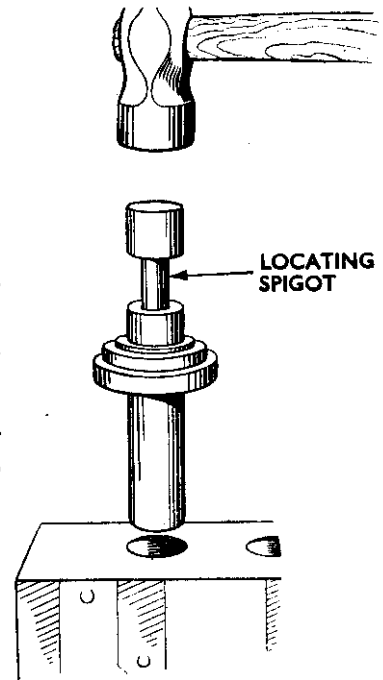

Fig. 6
- iv. With tool (spigoted drift) and hammer, as shown in Fig. 6, drive the guide in until the faces of the bottom flange makes contact with the cylinder head facing.